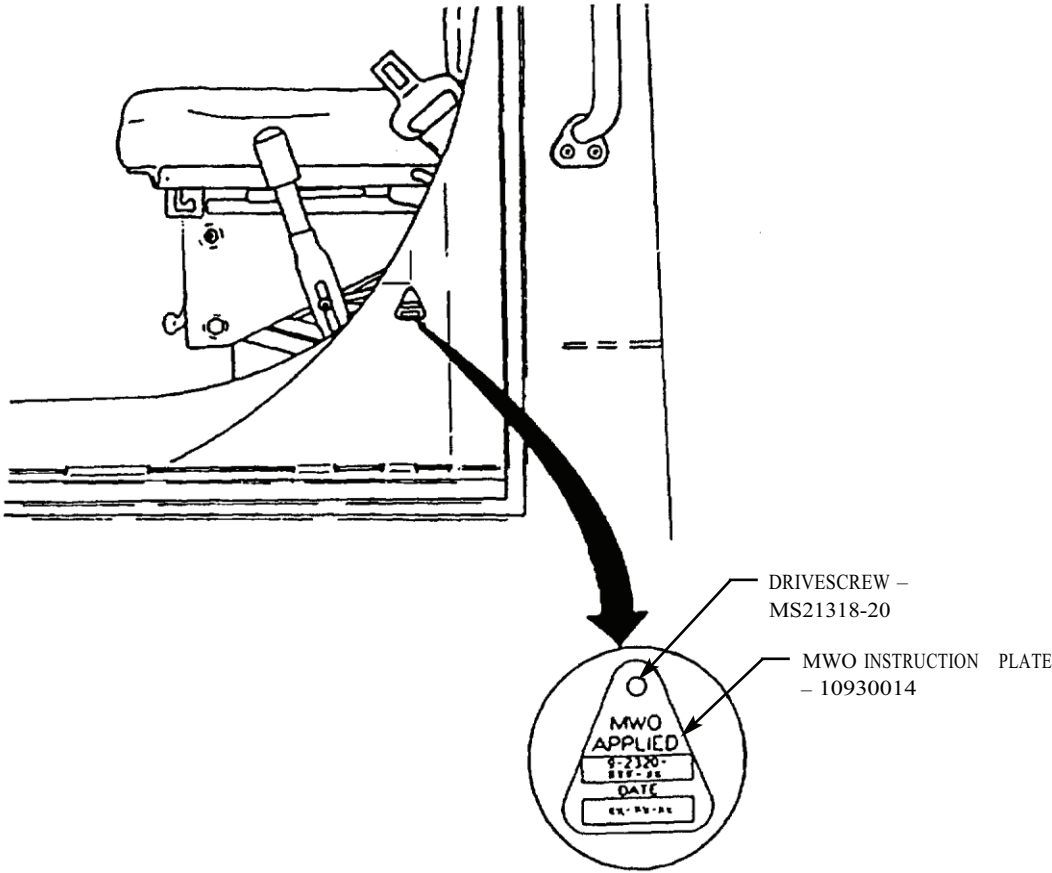

FIGURE4
- 1) After the M939 Spare Tire Repair Kit is installed, mark MWO number "9-2320-272-23-1" and date applied in the MWO and date blocks on 10930014 MWO Instruction Plate as shown in figure 4.
- 2) Install MWO data plate by drilling a 0.104-inch diameter hole (#37 drill) in cab body reinforcement panel and secure with MS21318-20 drivescrew as shown in figure 4.
15. MATERIAL CHANGE (MC) NUMBER.